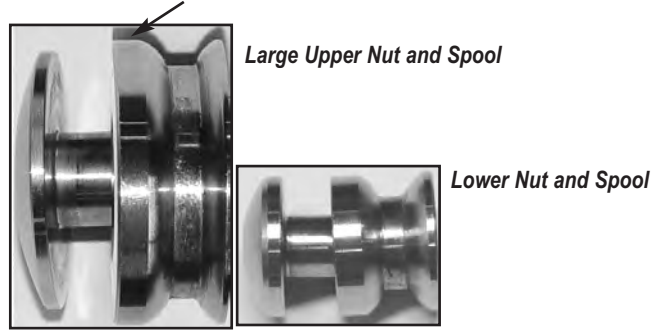

Figure 1
2. Remove the Upper Nut from the large Upper Spool. Reverse the Spool so the **thick side** of the Spool is near the head of the Upper Nut. Cushion remains in Upper Spool. Do the same for the Lower Nut and Spool. **Figure 1.**